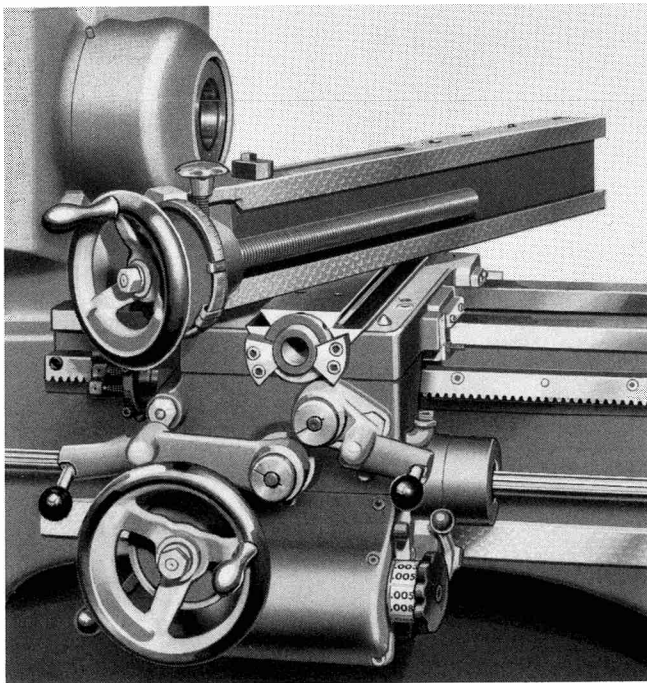

FIG. 13
2. To eliminate backlash between the cross slide screw and nut, loosen the locking screws holding the bronze adjustment nut. (Figure 13) Turn the adjust-